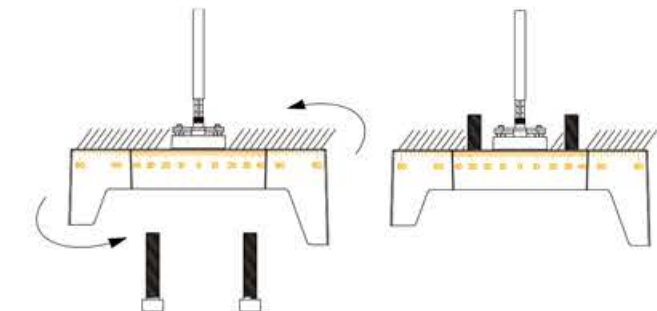

Figure-4 & 5
- 2) Adjust the mounting plate angle horizontally according to the result of software simulation, as shown in Figure-4.